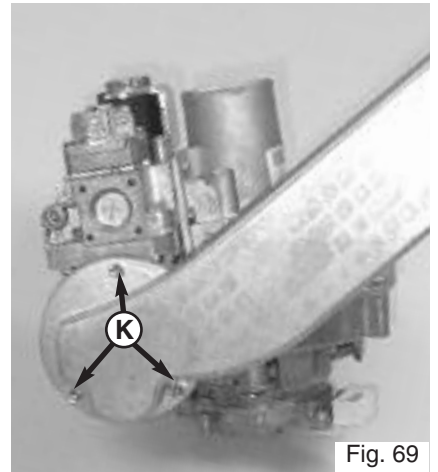

Fig. 69
4. Unscrew the three screws **K** on the air/gas pipe and remove (Fig. 69);